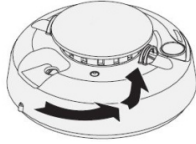

Figure 3.1: Removing the sensor from the mounting base
1. Remove the sensor from the mounting base. See *Figure 3.1*.